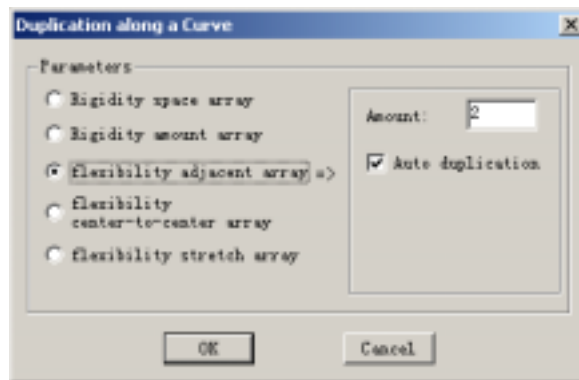

Fig. 6-39
6. When the cursor changes into  , click the left mouse button. A dialog is displayed. (Fig. 6-39)